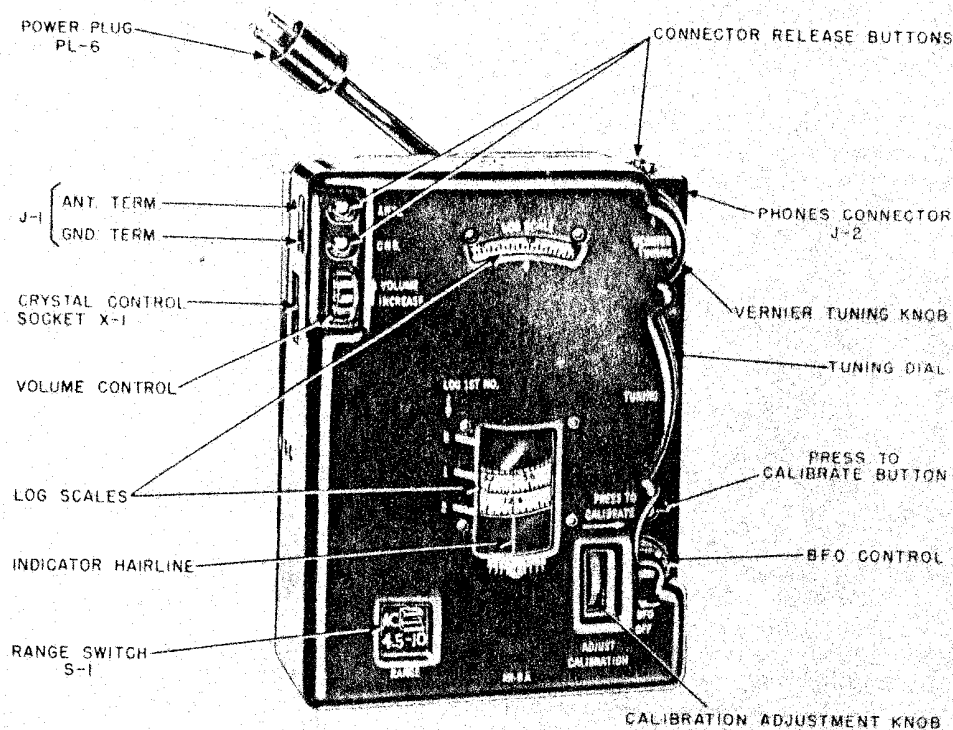

Figure 11. Receiver RR-6A showing control locations.
### 18. CONTROLS AND FUNCTIONS— (See figure 11)
(5) Turn ADJUST CALIBRATION (Figure 11) until the hairline coincides with the calibration point on the dial scale.
b. Set RANGE switch (Figure 11) for the proper frequency band:
- (1) Blue - Low band: 4.5 to 10 mc
- (2) Red - High band: 10 to 22 mc
b. Plug the crystal into CRYSTAL CONTROL socket, X-1, (Figure 11).